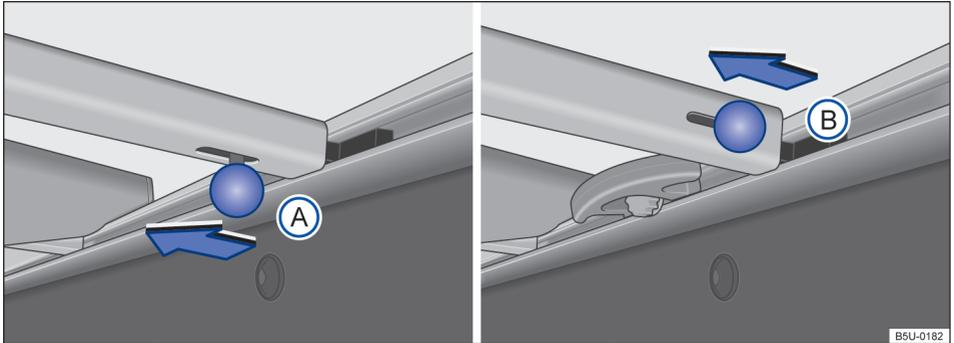
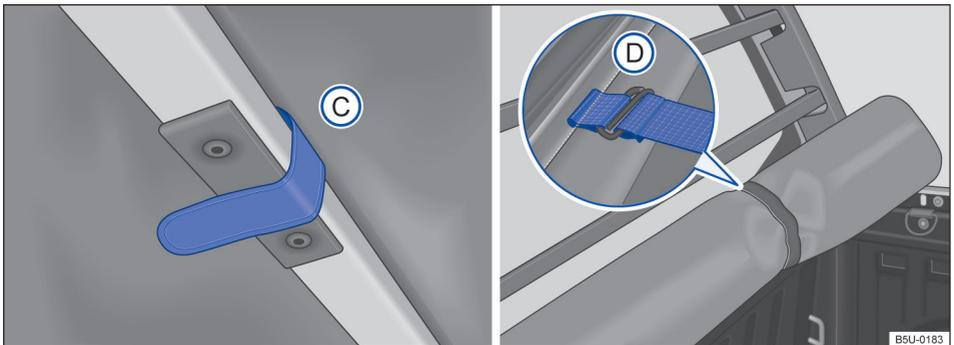

Fig. 50 Luggage compartment cross struts: (A) vehicles with fixed strapping supports, (B) vehicles with sliding strapping supports.
Fig. 51 On the bed: fastening strap and bed canvas properly retracted.
- To remove the type (A) or (B), move the locking pin in the direction of the arrow → Fig. 50. To remove the beam near the rear window, the fastening straps of the bed canvas → Fig. 51 (C) must be released.
- To remove the cross member near the rear window, the fastening straps of the bed canvas → Fig. 51 **C** must be released, and repeat the same previous procedure to remove the cross member (when more than one cross member is available).
- Once the cross member is fully retracted, secure it using fastening straps → Fig. 51 **D**.